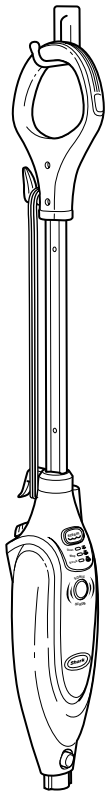

fig. 16
- 3 To store the **Shark® Pro Sonic Steam Pocket®** Mop hanging up, first remove the head (after it has cooled and the steam has been released) then hang on a large hook. (fig. 16)